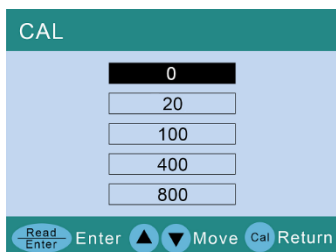

Figure 8.1
- e) Press **CAL** to enter the calibration menu, the cursor is at 0 NTU (see Figure 8.1).
- Press **▲** or **▼** to select the calibration point, as shown in Figure 8.1.